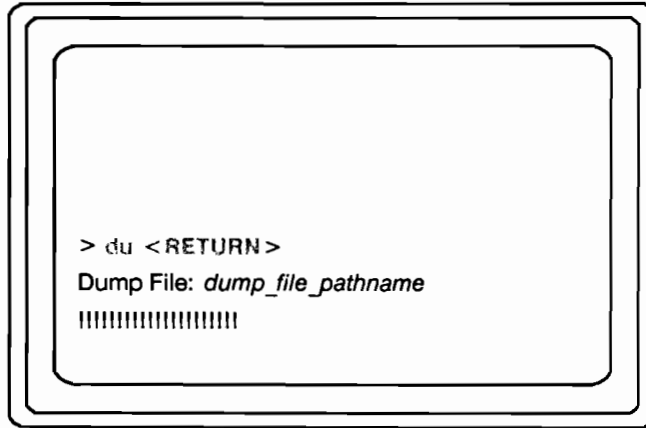

Figure 6-20. Starting the Memory Dump to a Cartridge Tape
4. Start the memory dump by typing the command shown in Figure 6-20.